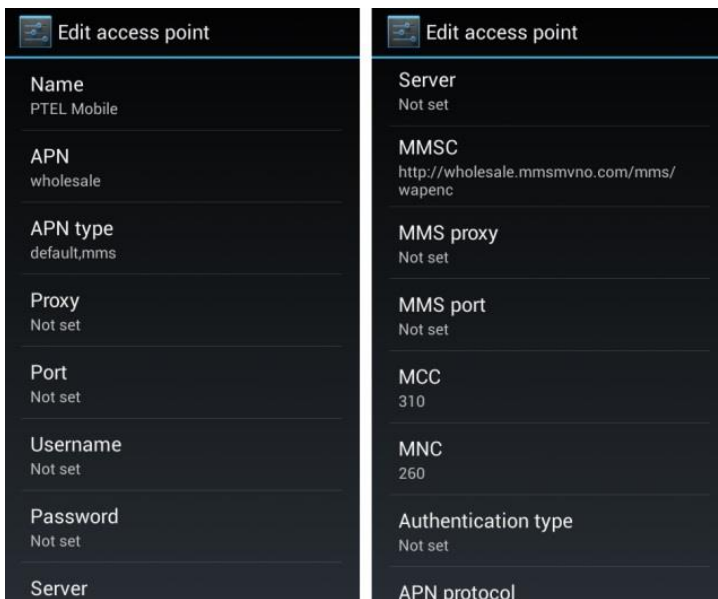

Figure 4
- Enter required information in each field by clicking into it and then clicking **OK** (Figure 4).